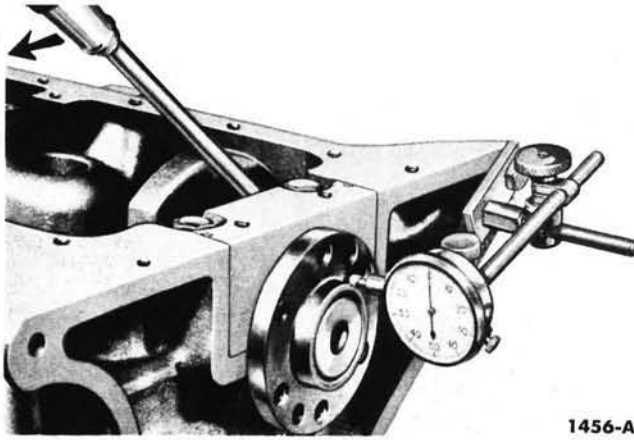

FIG. 38—Crankshaft End Play
5. Force the crankshaft toward the rear of the engine. Install a dial indicator so the contact point rests against the crankshaft flange and the indicator axis is parallel to the crankshaft axis (Fig. 38). Set the dial on zero, then push the crankshaft forward. Note the reading on the dial.